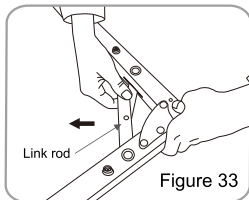

Figure 33
5. Pull up the corner link rods on the main frame and unfasten the turning joints on the vertical side of main frame ( Figure 33 - 34 ).